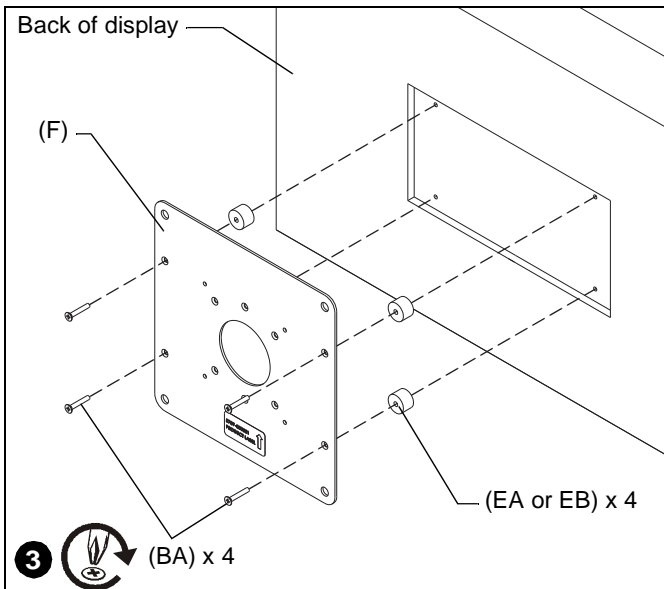

Figure 5
1. Align and place four spacers (EA or EB) over mounting holes in display back. (See Figure 5)
2. Align and place interface bracket (F) over four spacers (EA or EB). (See Figure 5)
3. Secure interface assembly to display back using four M4 x 25mm Phillips flat head screws (BA). (See Figure 5)